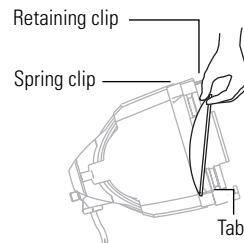

Figure 5
1. Position the luminaire with the front of the unit (the lens side) facing you and tilted slightly (**Figure 5**).
3. Hold the lens by the edge, and position it so the convex side faces the back of the luminaire (**Figure 5**).